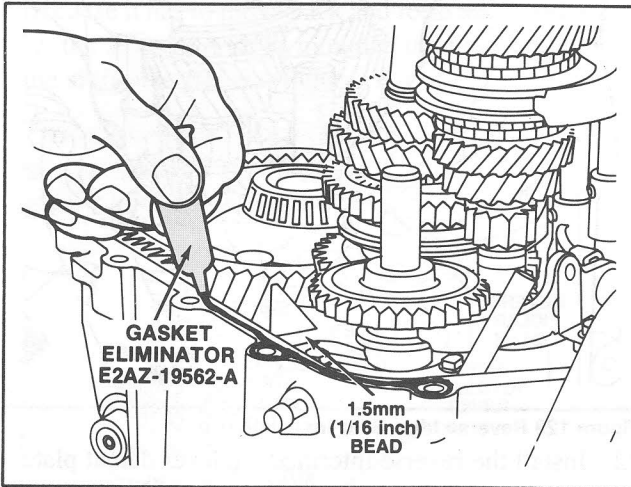

Figure 132 Sealant Application
24. Apply a one/sixteenth inch bead of Gasket Eliminator E2AZ-19562-A, or equivalent. (Figure 132).